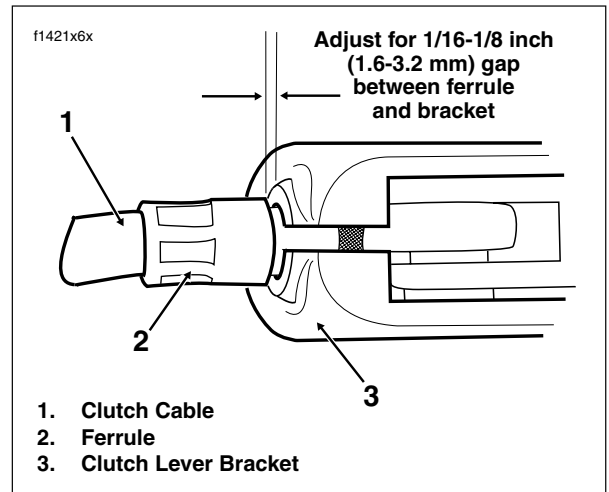

Figure 1-10. Adjust Clutch Free Play
7. Turn cable adjuster away from jam nut until slack is eliminated at hand lever. Pull clutch cable ferrule away from clutch lever bracket to check free play. Turn cable adjuster as necessary to obtain 1/16 to 1/8 inch (1.6-3.2 mm) free play between end of cable ferrule and clutch lever bracket, as shown in Figure 1-10.